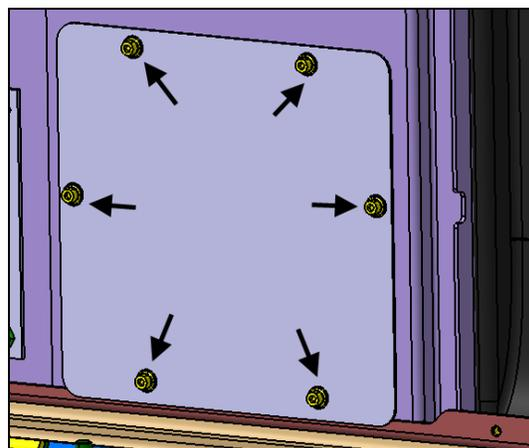

FIG.6 : X3 SERIES - RADAR ACCESS PANEL
10. **X3 Series:** Open the reclining bumper and remove the radar sensor access panel (fig.6).